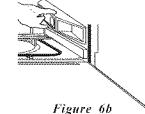

Figure 6b
10. Check that the dishwasher is level from front to back by taking out the lower rack, place level on the lower rack wheel support at the bottom of the tub. See Figure 6b.